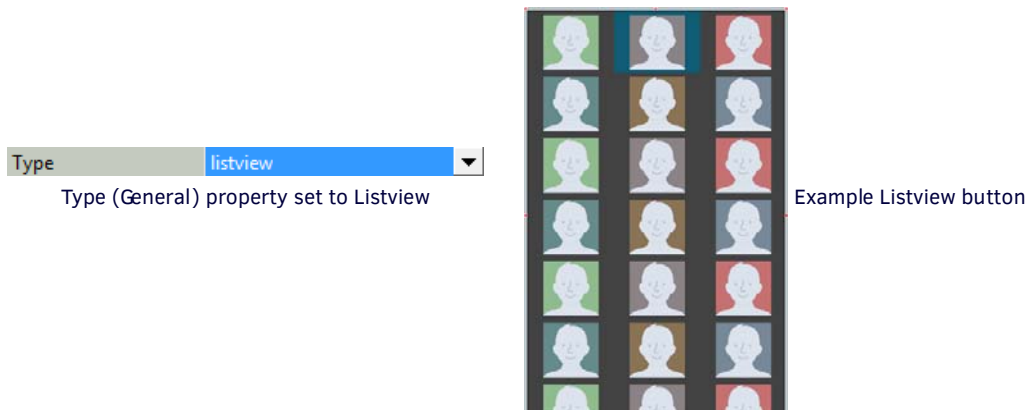

FIG. 133 Type (General) Property set to Listview
2. With the new button selected, click the **Type** (General) property and select **Listview** from the drop-down of button types. This selection sets the new button as a Listview button, and enables a set of Listview-specific properties (FIG. 133):